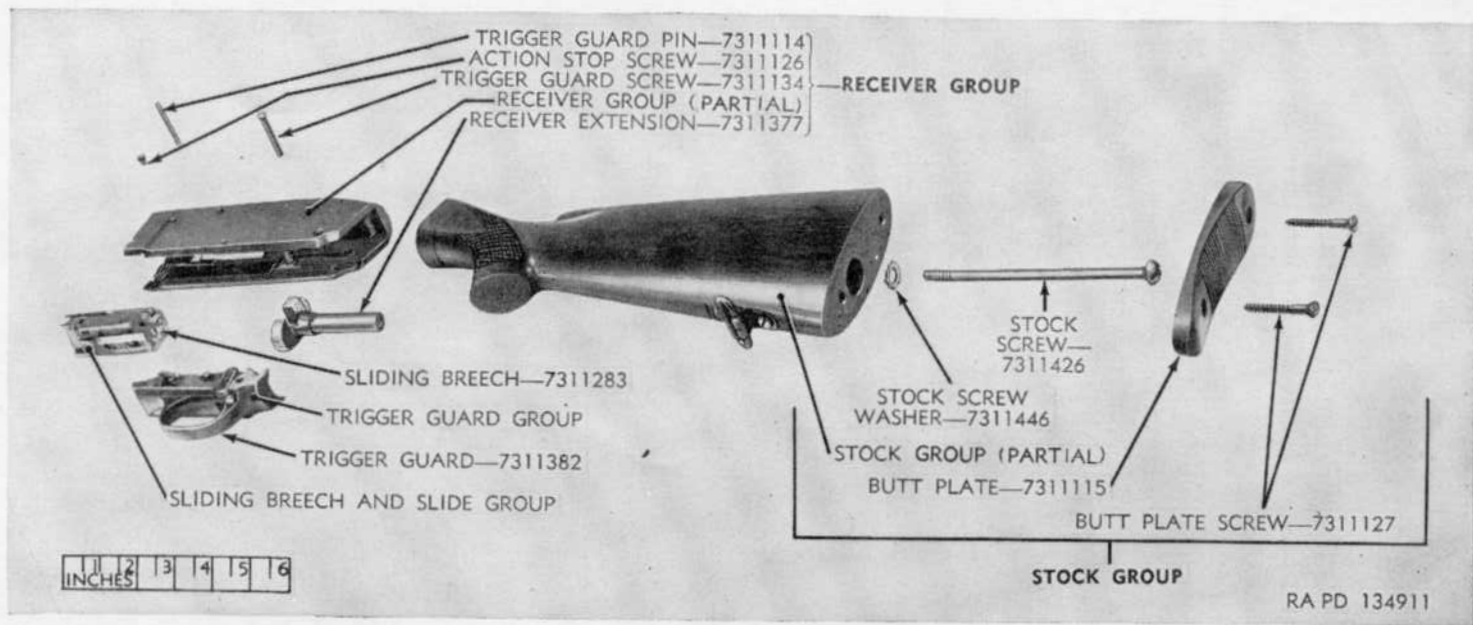

Figure 35. Breech end of Stevens shotgun M620A—partially exploded view.
(1) *For the shotgun M620A only (fig. 35).*